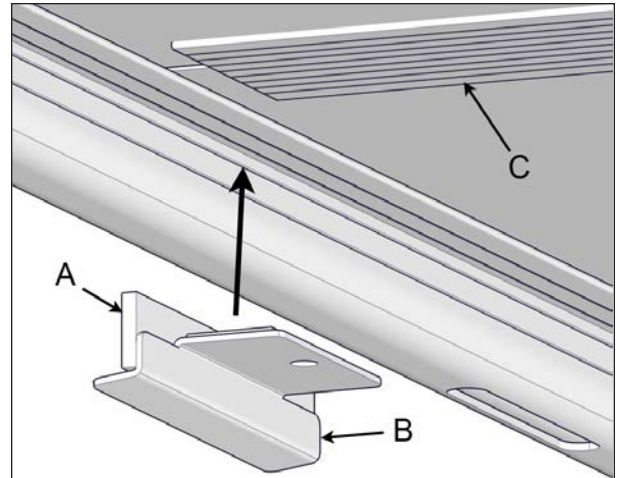

FIGURE 68: WIPER LOCATION
3. Under the cover, locate an I-beam and orientate the wide flap of the wiper outwards of the cover see Figure 68.